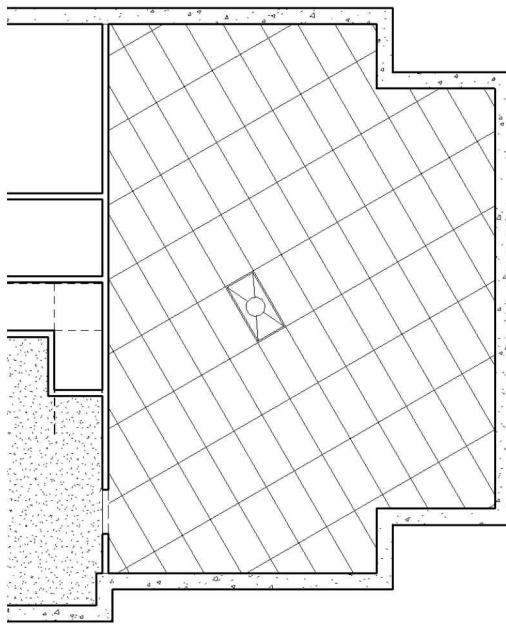

FIGURE 9-3.5 Basement Ceiling Plan; light fixture moved/rotated into place
8. Use **Rotate** and **Move** to rotate the fixture to align with the grid (Figure 9-3.5). The **Align** tool will also work.